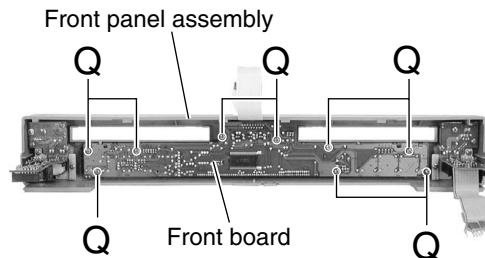

Fig.25
**■ Removing the front board (See Fig.25)**